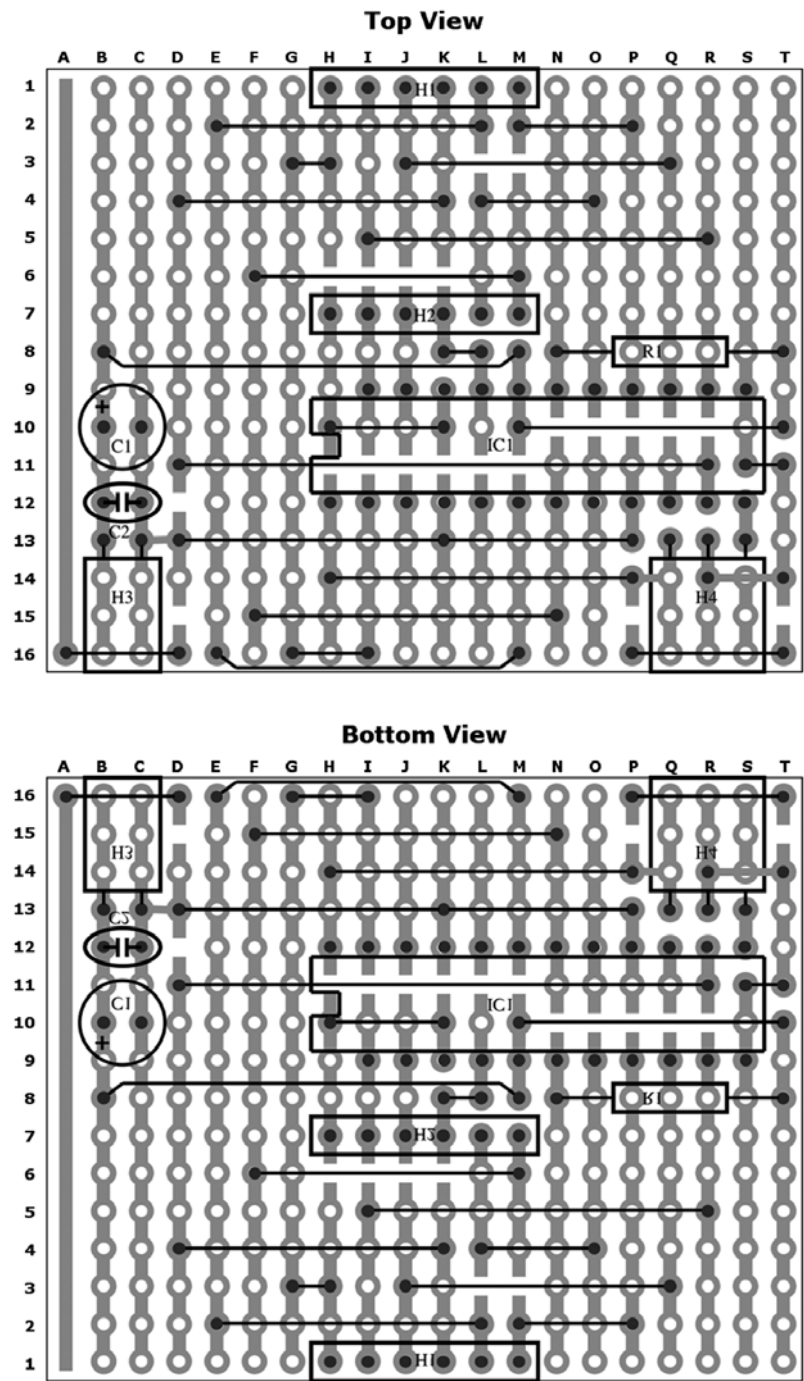

Figure 12-5 Stripboard layout for four-digit LED display (version 2)
The second version of the layout is presented in Figure 12-5. The only functional difference is that the 5 by 2 male header is not included because I
In Figure 12-5, you can see that row 8 and row 16 each contain two jumpers. This isn't that much of a complication; you just need to be sure to install them properly. In each row, first solder the short bare jumper in place and then cut and strip the ends of a longer insulated jumper and solder it in place. That way, there's no danger of a possible "short" on the board. The two insulated jumpers should be straight; I angled them in the layout for clarity. Also, at location K13 there are two different jumpers that need to be inserted into the same hole. In order to do so, you will need to use the thin leads from a .01 μ F capacitor or a 1/6-watt
3. Sever the traces on the bottom of the board as indicated in Figure 12-5.